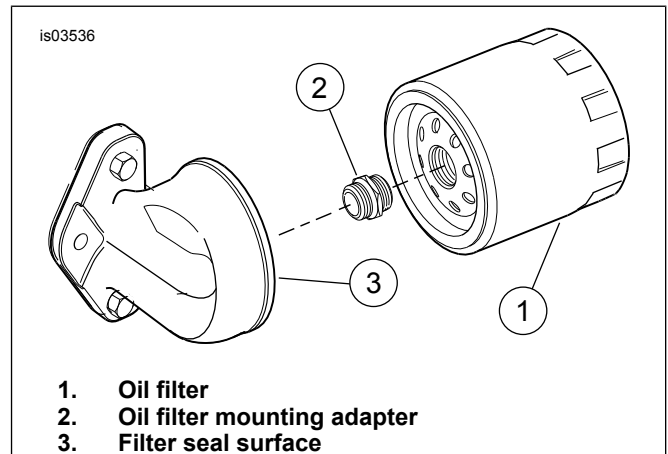

Figure 1. Stock Filter Mounting Bracket
1. See Figure 1. Remove the spin-on filter (1) and oil filter adapter (2) from oil filter mount (3). Discard filter adapter. Clean filter mounting area thoroughly.